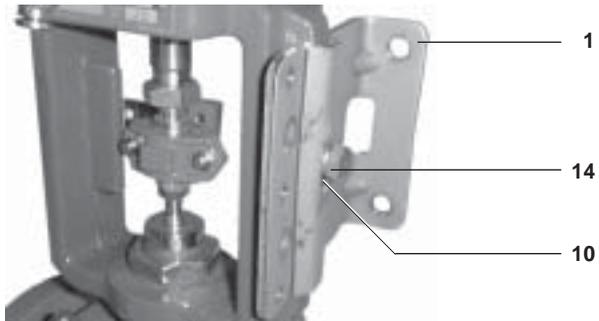

**Fig. 18**
**5.1.6** Ensure that the square face of the lever pin nut (7) is correctly located in the feedback arm slot. Attach the connection lever pin (6) and M5 washer (8) and tighten to 3.5 - 4.0 N m (refer to Figure 18).